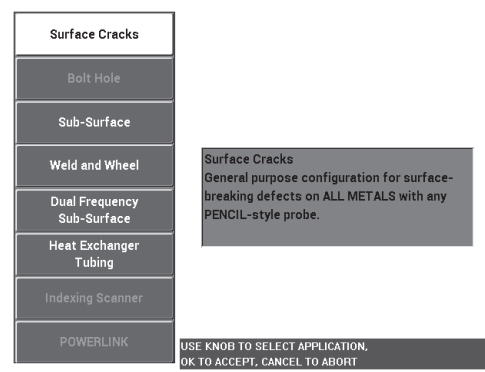

Figure 5-41 The Surface Cracks application
2. Press the ADV SETUP menu key (➔ ) once, and then select **APPL SELECT** (A key) to open the application selection menu. Select **Surface Cracks** with the knob, and then press ✓ to accept (see Figure 5-41 on page 156).